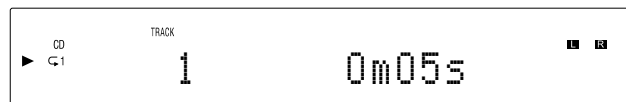

Figure 22
1. With the disc playing (Regular, Program or Random Playback Modes), press the SHIFT Push-button then the REPEAT Push-button once to activate the Track Repeat (↺1); press the REPEAT Push-button twice to activate the Disc Repeat (↺). Refer to figures 22 and 23.